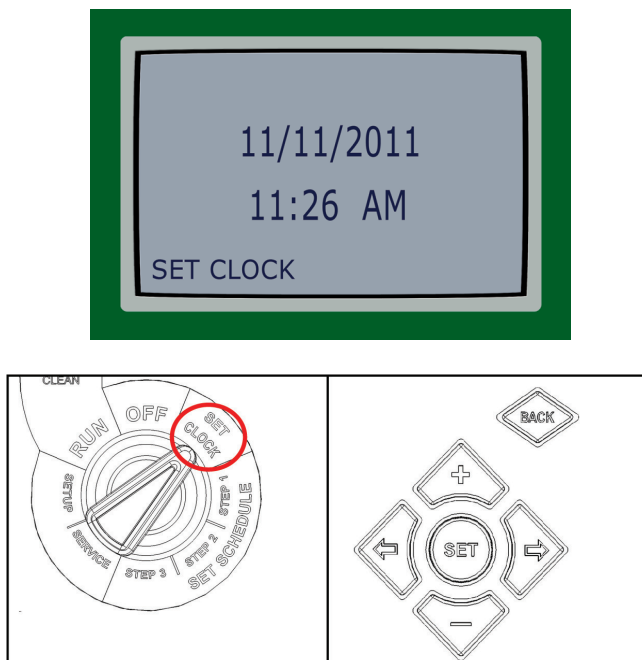

Figure 5: SET CLOCK Menu Buttons
1. Turn the selector knob (see Figure 5) to SET CLOCK.